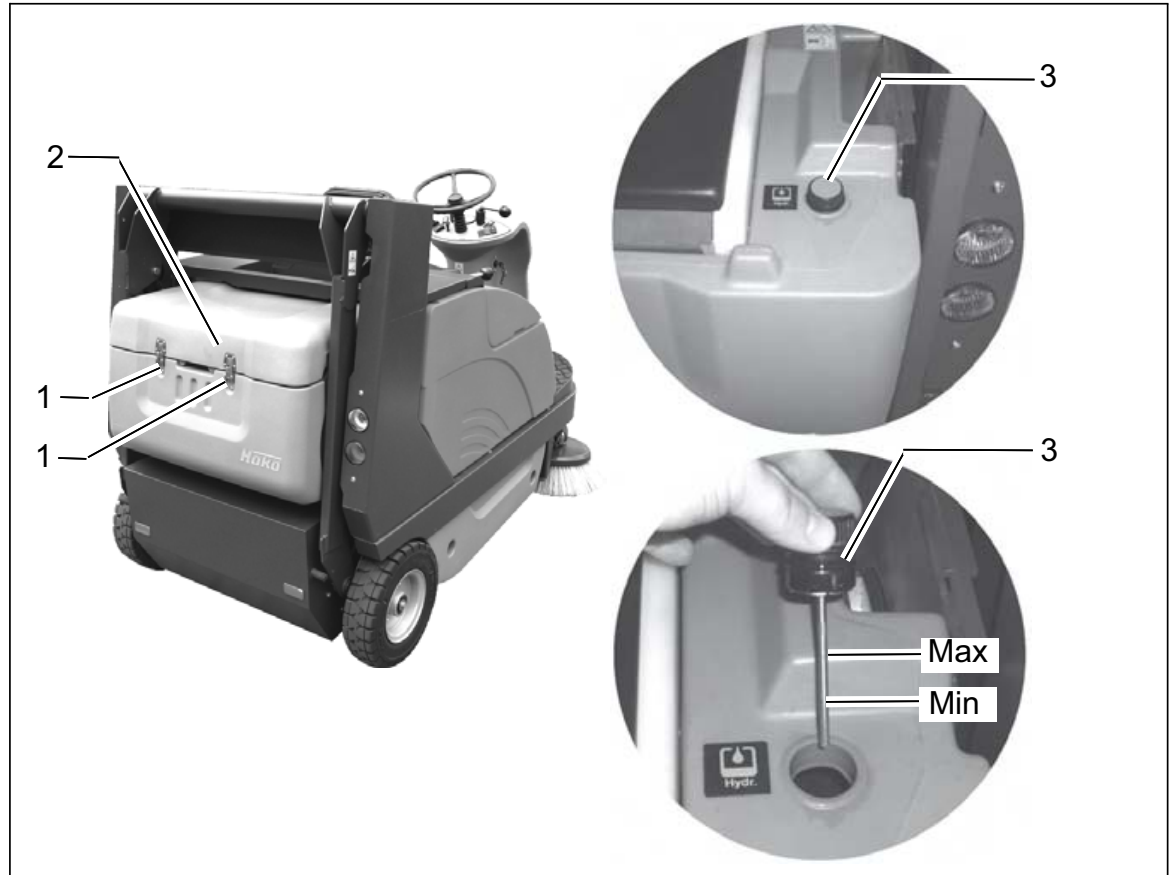

Fig.20
- Open quick-release locks (Fig. 20/1) and remove cover (Fig. 20/2)
- Clean the area of the dipstick (Fig. 20/3).
- Pull dipstick (Fig. 20/3).
- Pull dipstick (Fig. 20/3) and check the hydraulic fluid level, refill if required.
- Unscrew cap with dipstick (Fig. 20/2) and check hydraulic fluid level, siehe Abschnitt 5.6.1.
- The hydraulic fluid level must not fall below the minimum. It should read between the minimum and the maximum (Fig. 20/).